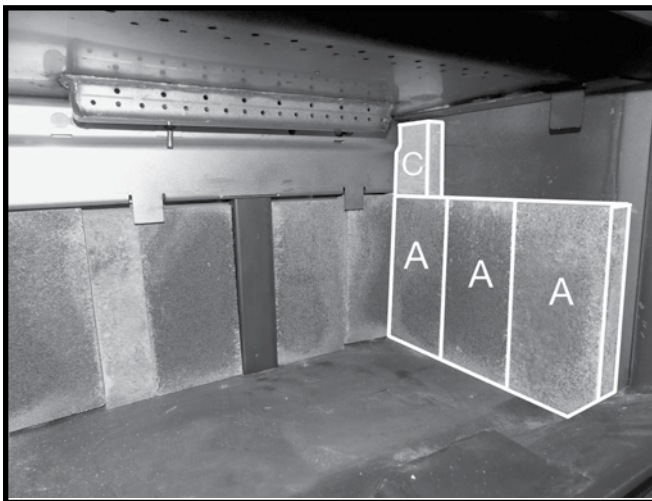

Figure 23: Right side wall A and C brick placement.
3. On one of the side walls, stand three "A" bricks vertically and push them back so that they make contact with the "A" bricks on the rear wall. Then place a "C" brick on top of an "A" brick (Figure 23).